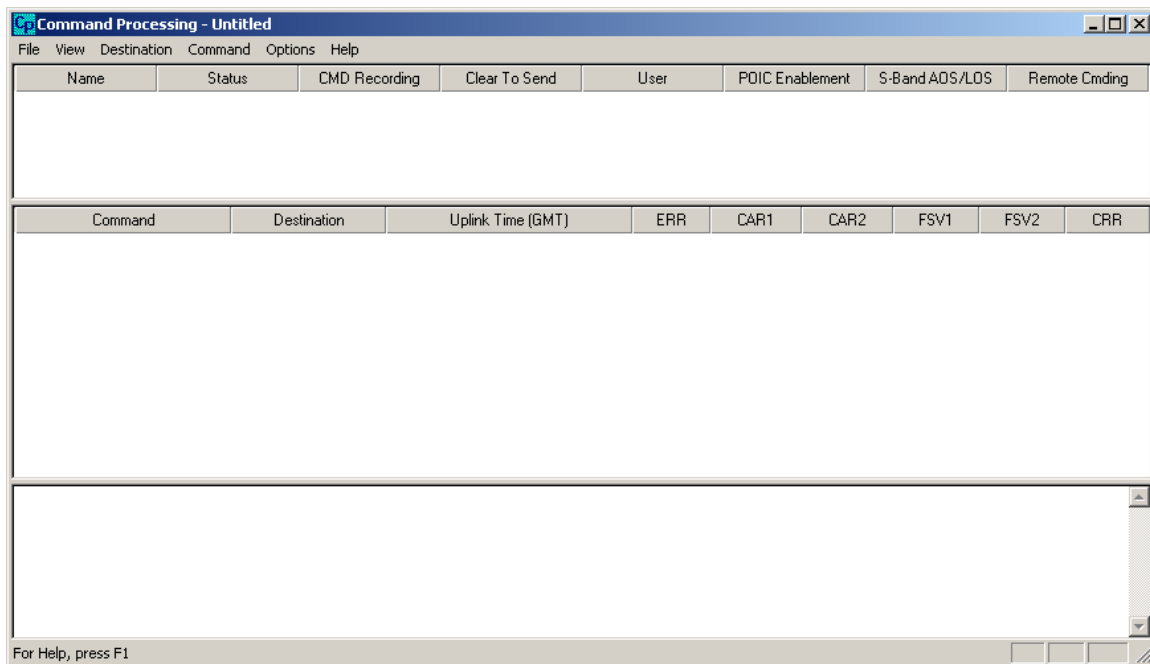

Figure 20 Command Processing Main Window
1. You can start the Command Processing application by using the Window's **Start** menu. Go to the Window's **Start** menu, select **Programs**, select **TReK**, and then select **Command Processing**. (Note: If you selected a Program Folder name other than **TReK** during installation, then that name will appear on the Start menu instead of **TReK**). The **Command Processing** main window as shown in Figure 20 will appear on your screen.